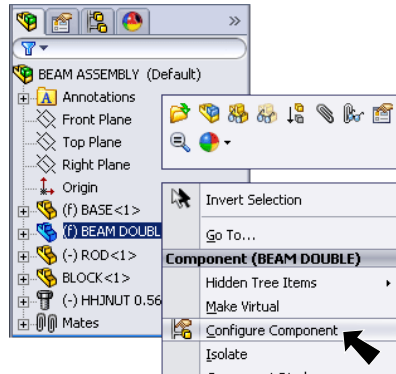

Fig. 1
Step 2. **Right click Beam Double** in the Feature Manager and click **Configure Component** from the Content toolbar, **Fig. 1**.